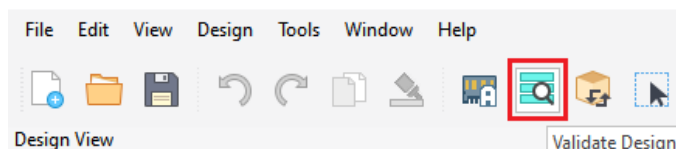

Figure A.15. Validate Button
8. Click the **Validate** button as shown in Figure A.15.